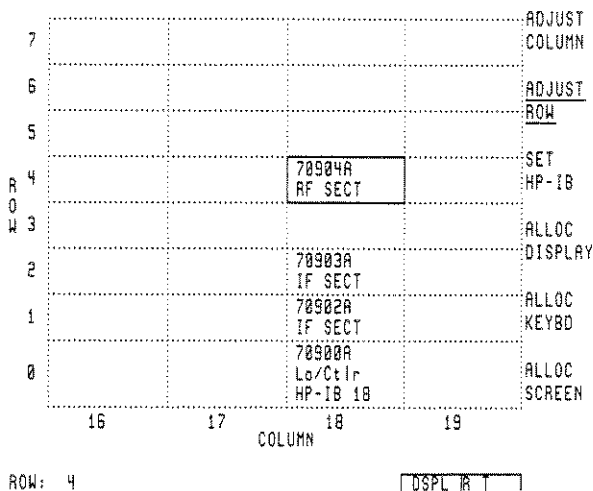

Fig. 9
6. Use the step-up key to place the cursor on the RF section as in Figure 9.